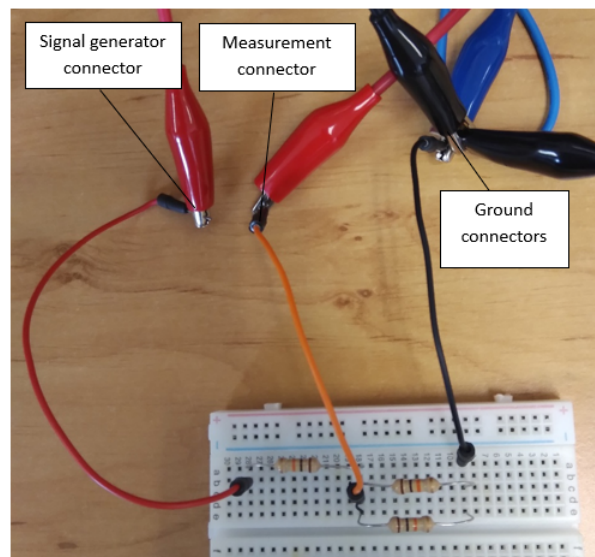

Figure 92: BNC cables from the oscilloscope and function generator connected to the circuit in Figure 87.
4. The BNC cables are connected as shown in Figure 92. The red side of the output of the wave